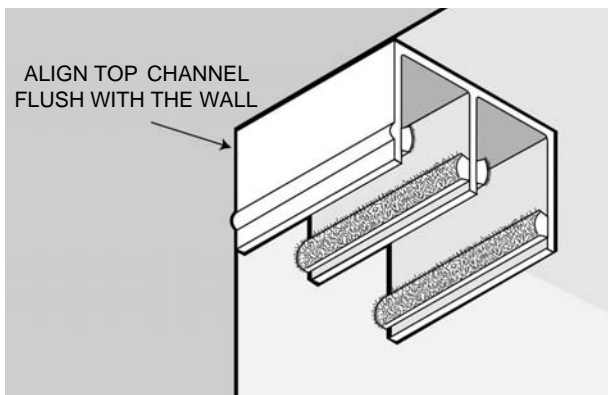

Figure 1
- When cut to proper length, install Top Channel (#2) up to the top front of closet opening making sure that the front of the Top Channel (#2) is flush with outside walls (See Figure 1). Hold up the Top Channel (#2) in the desired position and with your Pencil, mark where the pre-drilled holes are in the Top Channel (#2).